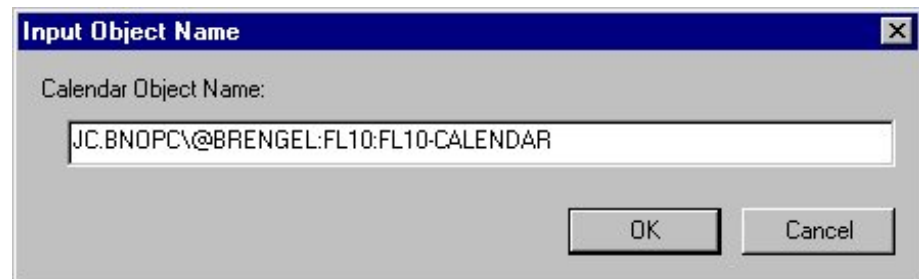

Figure 6-5: Completed Input Object Name Dialog Box
7. In the Calendar Object Name field, type in the complete hierarchical path of a Schedule object (Figure 6-5).